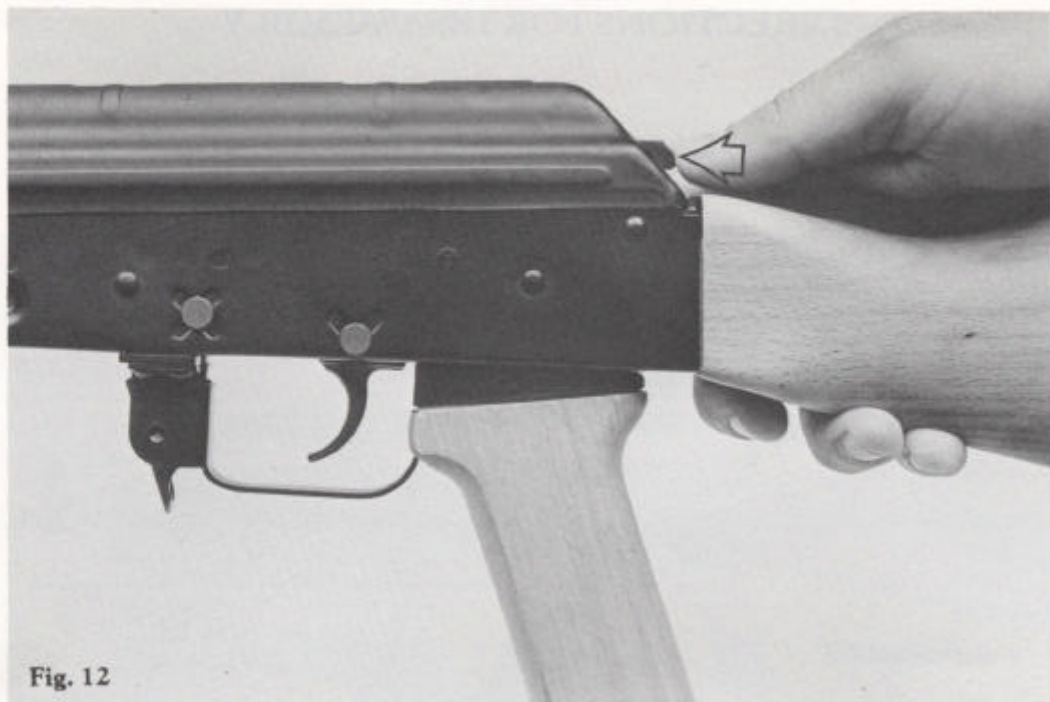

Fig. 12
1. Depress the grooved end of the recoil spring guide (the portion which protrudes from the rear of the receiver cover) (Fig. 12).